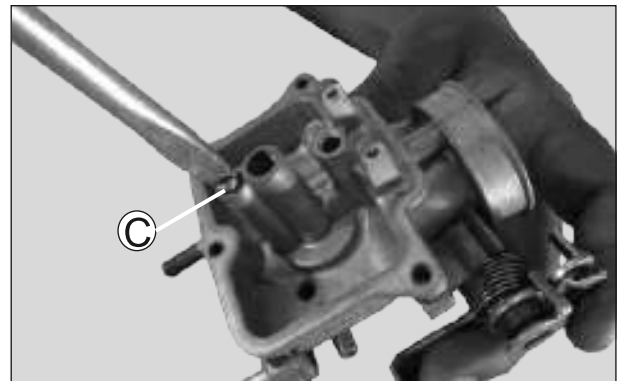

Fig. 4.26
- Remove the pilot jet (C). (Fig. 4.26)